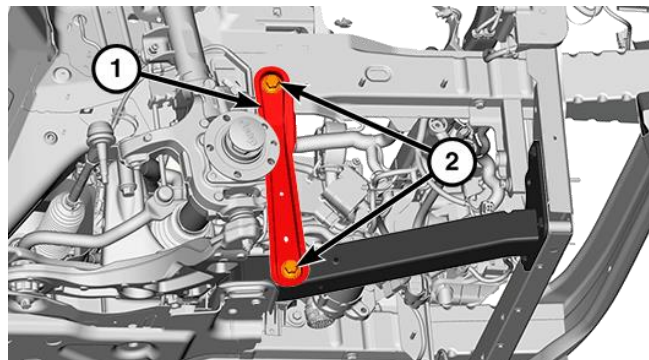

Figure 21 – Vertical Bracket
26. **If equipped**, Remove the bolts (2) then remove the vertical bracket (1) from both sides of the vehicle (Figure 21).